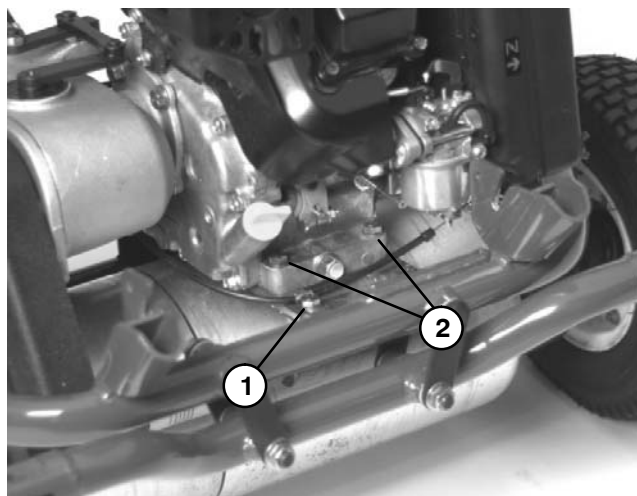

Figure 17
5. Reconnect and adjust throttle cable (See Throttle Cable Adjustment). Make sure that throttle cable clamp is correctly positioned on engine base (Fig. 17).